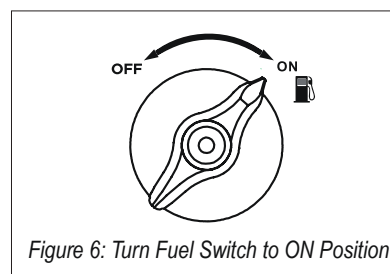

Figure 6: Turn Fuel Switch to ON Position
5. Turn the Fuel Control Switch to the ON position (see Figure 6).
4. Confirm that the Fuel Control Switch is in the ON position (see Figure 6).